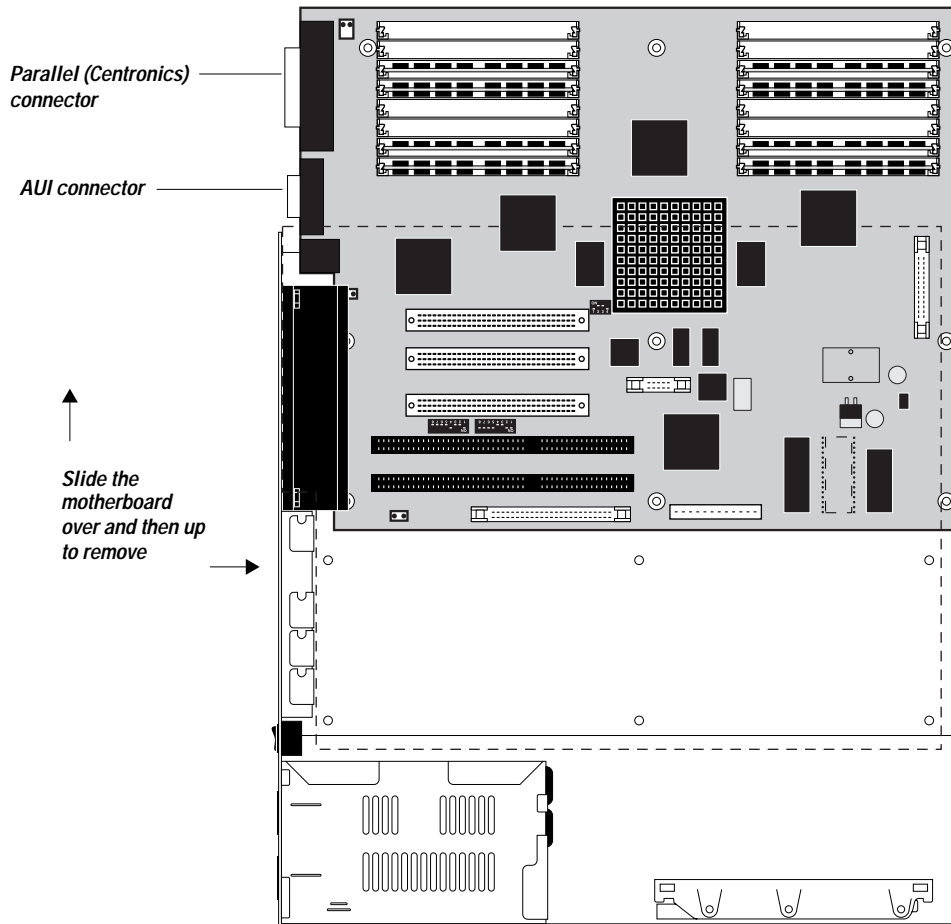

Figure 5-20 Removing the motherboard from the chassis
7. Pull the motherboard out of the Fiery XJ BP100 chassis (see Figure 5-20).